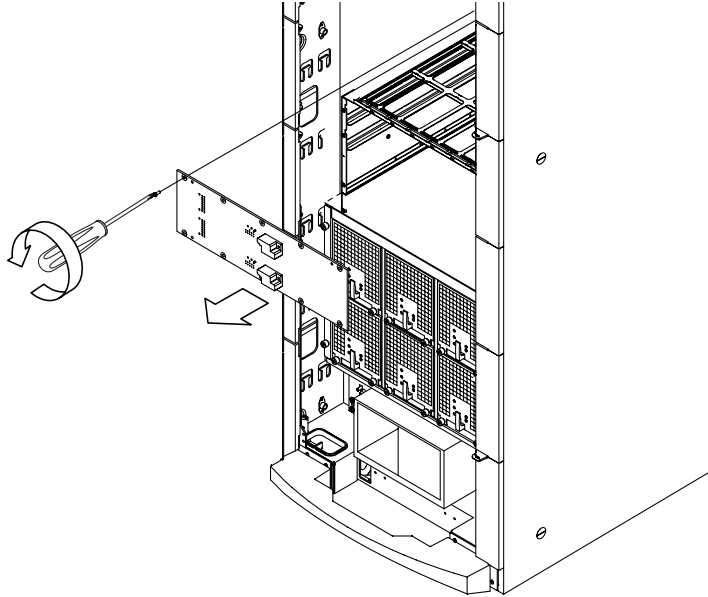

FIGURE 12-10 Removing the Screws Securing the Fan Centerplane
7. **Remove the 10 screws securing the fan centerplane to the system (FIGURE 12-10).**
1. Insert and align the centerplane within the chassis cabinet and replace the 10 screws securing the centerplane to the system chassis (FIGURE 12-10 on page 12-8).
1. Insert and align the power centerplane within the chassis cabinet and replace the nine screws securing the centerplane to the cabinet (FIGURE 12-10 on page 12-8).